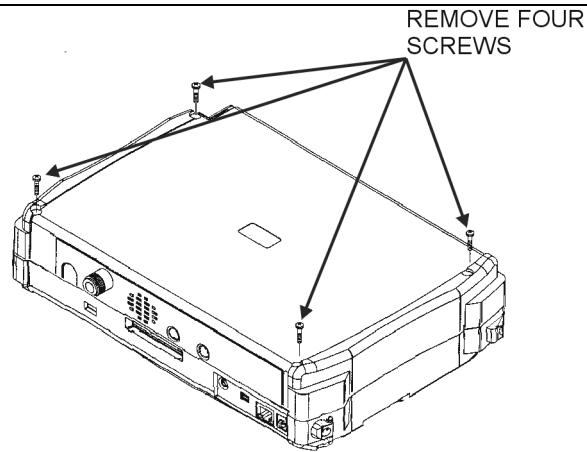

Figure 9. Removing the Cover Screws
3. Use a Phillips screwdriver to remove the four screws securing the two halves of the VNA Master case together (Figure 9).